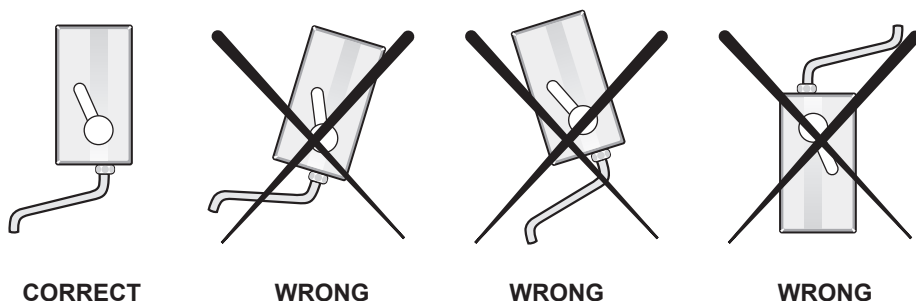

Fig. 1
- The device can operate only in the position shown on the figure 1.